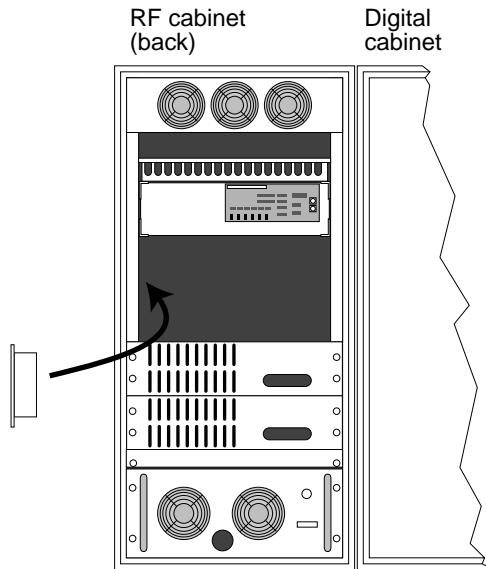

Figure 5. Voltage Regulator Module Installation
2. Mount the voltage regulator module (01-905652-00) in the back of the rf cabinet, as shown in Figure 5. Use the #10 screws, nuts, and washers (12-222060-08, 14-122010-00, and 14-202010-00).